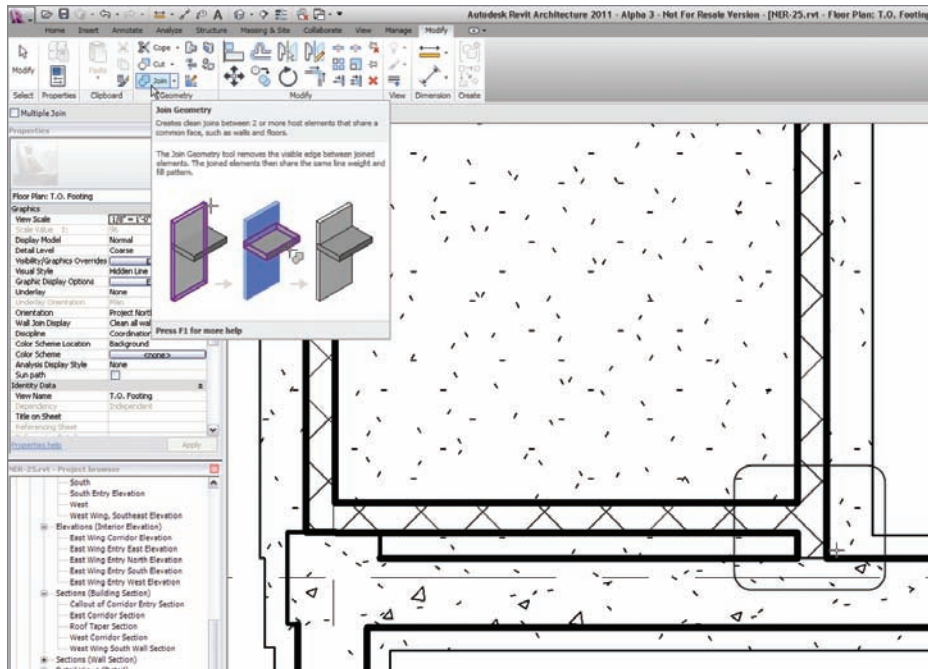

FIGURE 8.53 Disallowing the wall's join will enable the foundation walls to terminate as expected.
6. The masonry wall to the right needs to be joined to the foundation wall. To do this, click the Join Geometry button on the Modify toolbar, as shown in Figure 8.53.